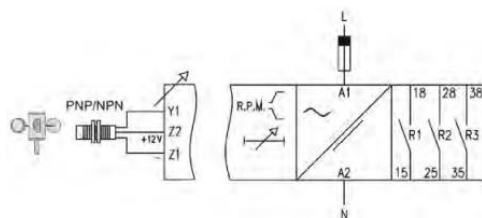

Fig.5
- 1) Connect main power supply (230 V AC) to the terminals A1 and A2 of the control unit. (Fig. 5) If the connection has been made correctly, the green LED must be on.